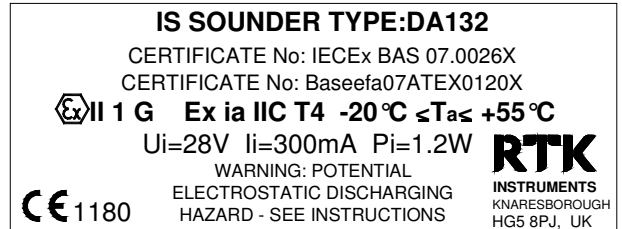

Fig 5
- A Certification Label as shown in Fig 5 showing all relevant certification information.